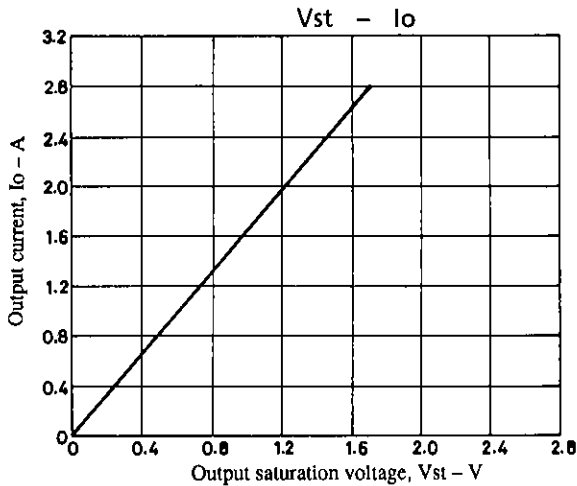

Fig. 8
The characteristic diagrams (typ) for IOH and Vst, and IOH and Vdf are given in Figs. 8 and 9.
Referring to Figs. 8 and 9, each value for Vst and Vdf is determined by expression (10) as follows :